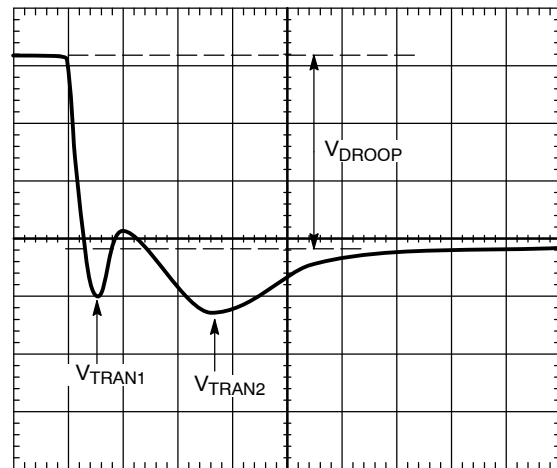

Figure 29. Transient Setting Waveform, Load Step
- With the dynamic load set at its maximum step size, expand the scope time scale to 2 $\mu\text{s}/\text{div}$ to 5 $\mu\text{s}/\text{div}$. This results in a waveform that may have two overshoots and one minor undershoot before achieving the final desired value after V_{DROOP} (see Figure 29).